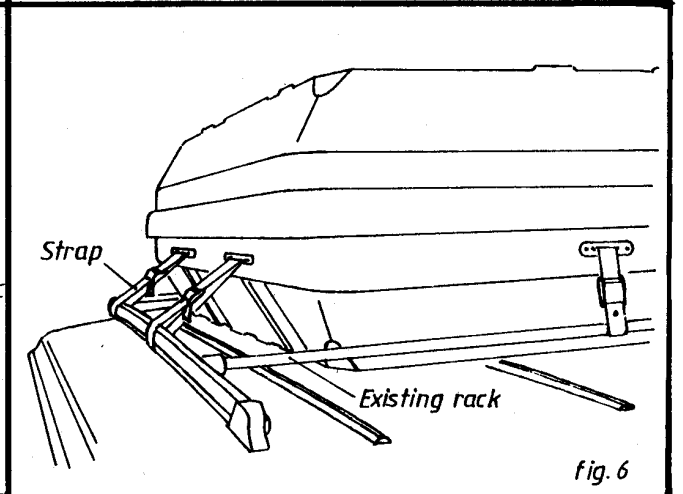

fig. 6
Gepäckträger (Fig.6): Montieren mit Montagesatz nr. 50 0000 22: Mounting kit of straps (separat zu bestellen).
- 3. With straps on an existing carrier (fig. 6):** Installation with the use of the mounting set nr. 50 0000 22: Mounting kit of straps (to be ordered separately).